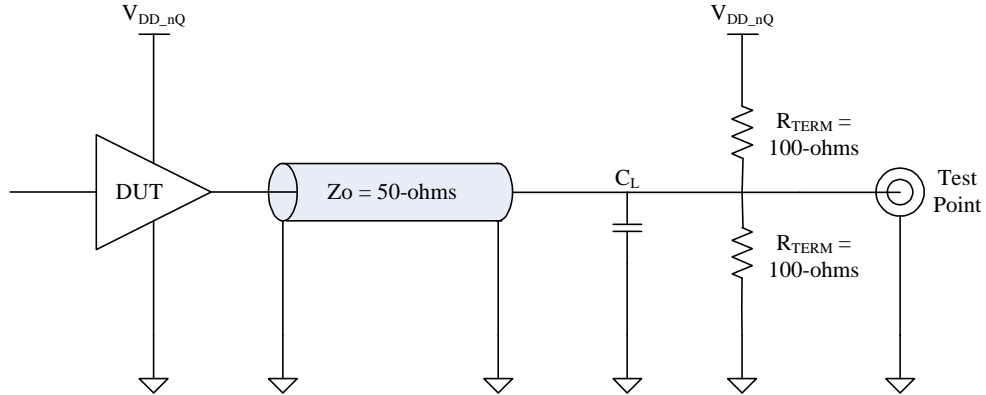

Figure 8B. Thevenin Terminated LVC MOS/LVTTL Test Circuit
| | | $f_{out} > 100 \text{ MHz}$, measured at $(V_{DD_nQ})/2$ | Figure 8B | 40 | 60 | % |
| | | | $V_{DD_nQ}= 3.3V$ Outputs loaded per Fig. 8B | 1.5 | -- | |
| | | | $V_{DD_nQ}= 2.5V$ Outputs loaded per Fig. 8B | 1.5 | -- | |
| | | | $V_{DD_nQ}= 3.3V$ Outputs loaded per Fig. 8B | 2 | -- | |
| | | | $V_{DD_nQ}= 2.5V$ Outputs loaded per Fig. 8B | 2 | -- | |
1. All outputs are equally loaded. See figure 8B.
1. When measuring the dynamic supply current, all outputs are disconnected from the equivalent test load defined in figure 8B.